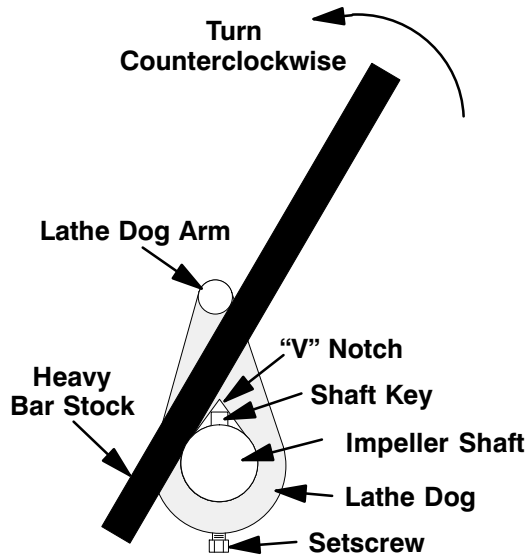

Figure E-3. Loosening Impeller
Remove the inner hardware (16 and 17) from the casing ring (12). If the removal tool is used, follow the instructions packaged with it, and pull the rotating assembly from the pump casing (see Figure E-3 for removal tool use). If the removal tool is not used, install three of the inner capscrews in the jacking holes in the casing ring, and use them to press the rotating assembly into the pump casing until the bearing housing is free.